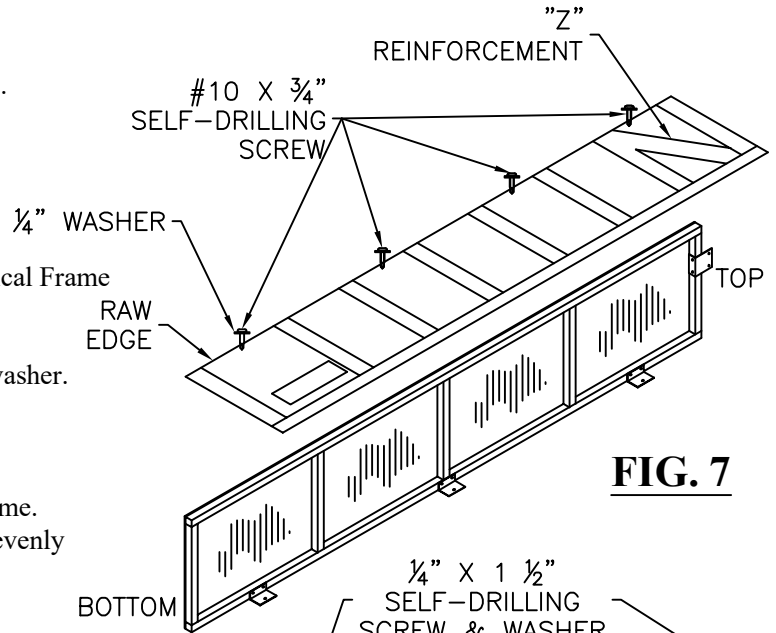

FIG. 7
- Place bottom of Vertical Panel flush with bottom of Vertical Frame (Figure 7).
- Secure Vertical Panel between stays with three (3) other evenly spaced #10" self-drilling screws and 1/4" washers.